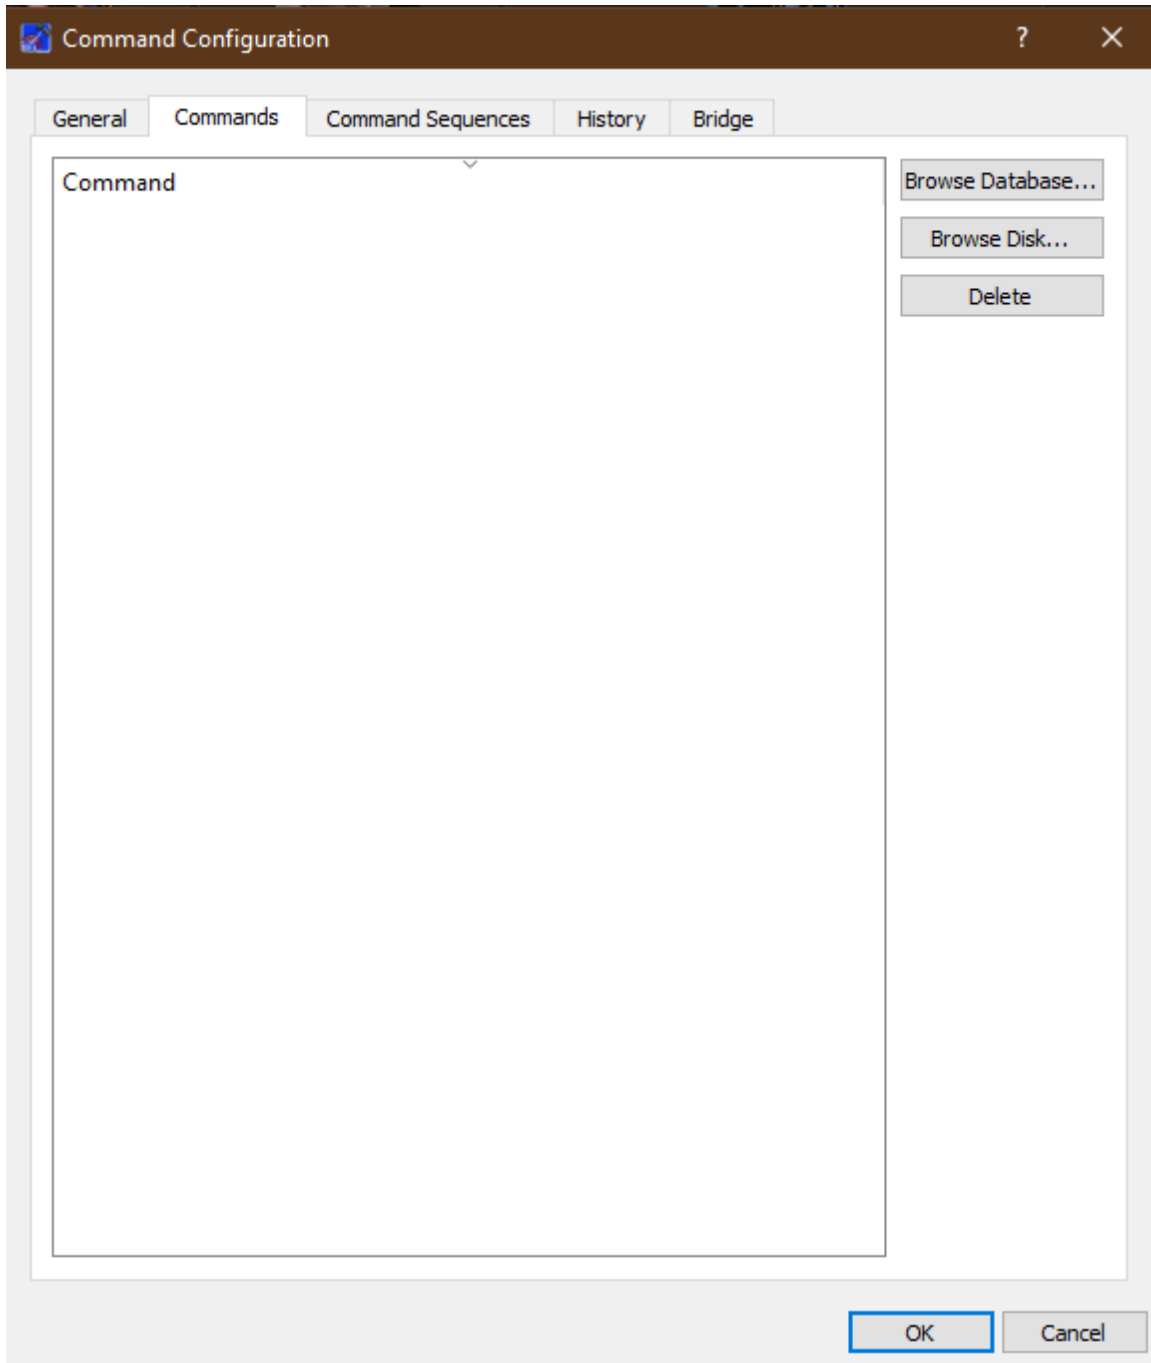

Figure 7 Command Configuration Dialog (Command Tab)
5. In the Command Configuration dialog, select the Command tab. Your dialog should look like the one shown in Figure 7.